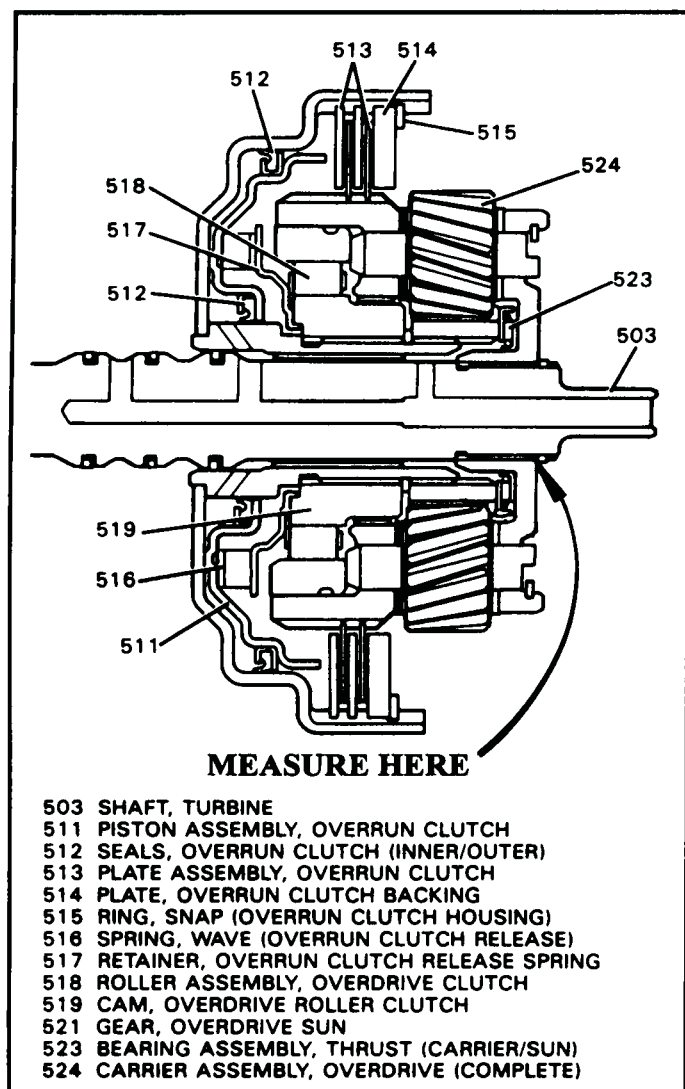
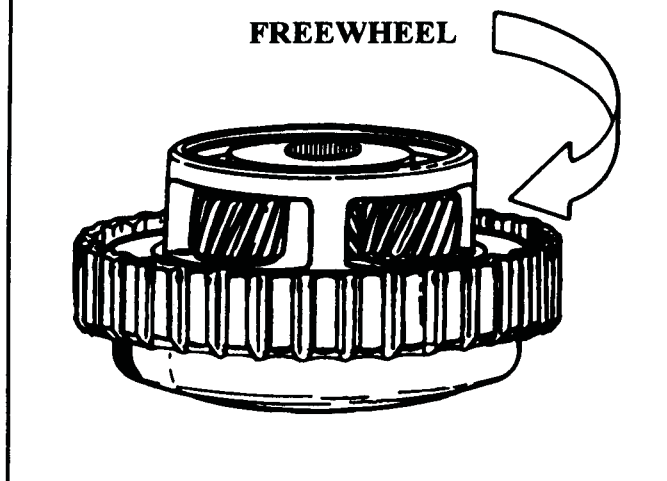

Figure 120
Figure 121
12. Install new inner and outer lip seals on overrun clutch piston, with the lips facing the direction shown in Figure 120, away from clutch plates.
23. Install the overrun clutch plates into overrun clutch housing, beginning with a steel plate and alternating with lined plates, until you have 2 steel plates and 2 lined plates installed, shown in Figures 120 and 122.
24. Install the overrun clutch backing plate (514), with chamfered side up (See Figure 120).
25. Install the backing plate snap ring (515) shown in Figures 120 and 122.
26. Install the overdrive sun gear (521) as shown in Figures 120 and 122.
27. Install the overdrive carrier assembly (524) into the overrun clutch housing by rotating in clockwise direction until it is fully seated in clutch plates as shown in Figure 121.
28. With the overrun clutch housing and overdrive carrier assembly placed as shown in Figure 121 the overdrive carrier should freewheel in clockwise direction, and lock counterclockwise, as you hold the overrun clutch housing.
29. While holding overdrive carrier and overrun clutch housing together as shown in Figure 121 install the preassembled turbine shaft through the overdrive carrier splines and install the snap ring onto the turbine shaft (See Figure 120).
30. Measure the distance between the snap ring on the turbine shaft, and the overdrive carrier, as shown in Figure 120 with a feeler gage.